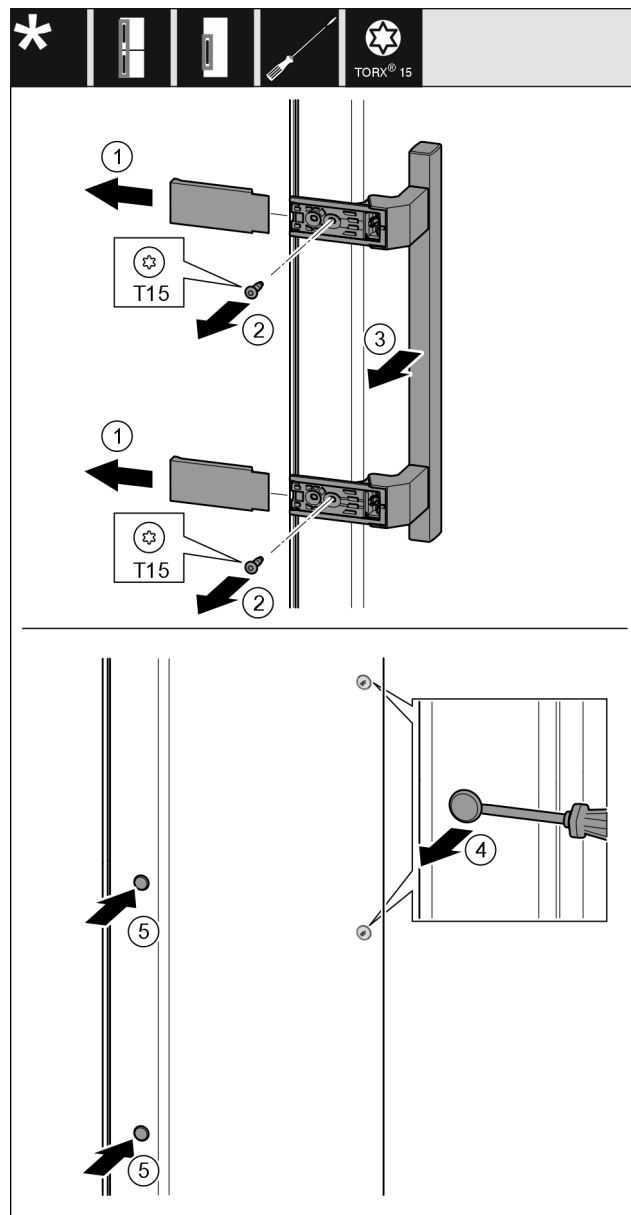

Fig. 39
- Pull off the cover Fig. 39 (1).
- Turn out the screws Fig. 39 (2) with the screw driver.
- Remove the handle Fig. 39 (3).
- Carefully lift the side plug Fig. 39 (4) with a slotted screwdriver and pull it out.
- Reinsert the plug Fig. 39 (5) on the other side.